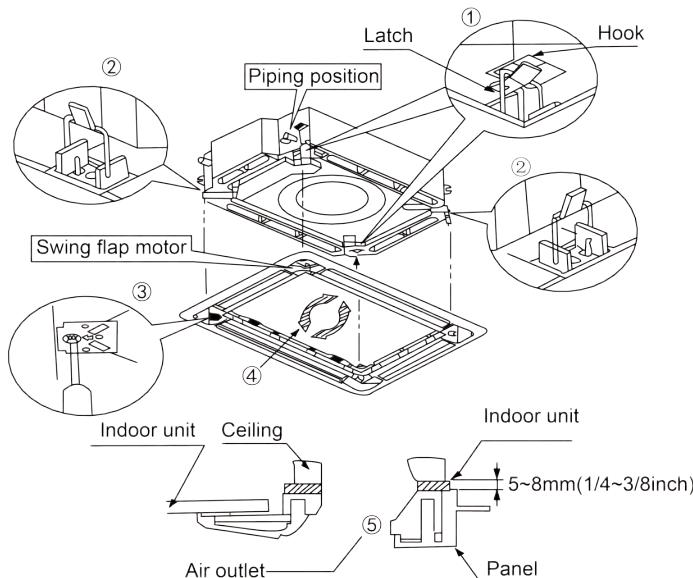

Fig. 4.34
- (1) Place the panel at the unit, and latch the hooks beside and opposite the swing flap motor.
- (2) Latch other two hooks.
- (3) Tighten four hexagonal screws under the latches about 15mm.
- (4) Adjust the panel along the direction indicated by the arrow as shown in Fig. 4.34.
- (5) Tighten the screws until the thickness of the sealing material between the panel and the indoor unit reduces to 5-8mm.